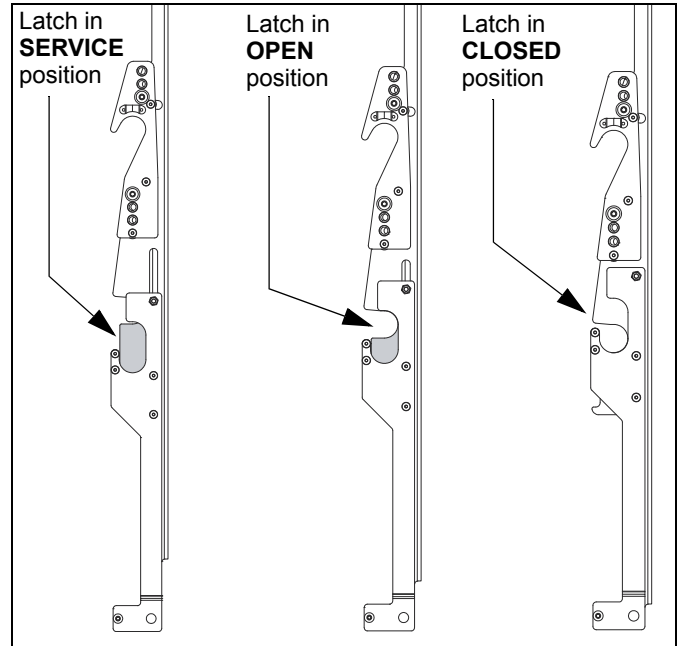
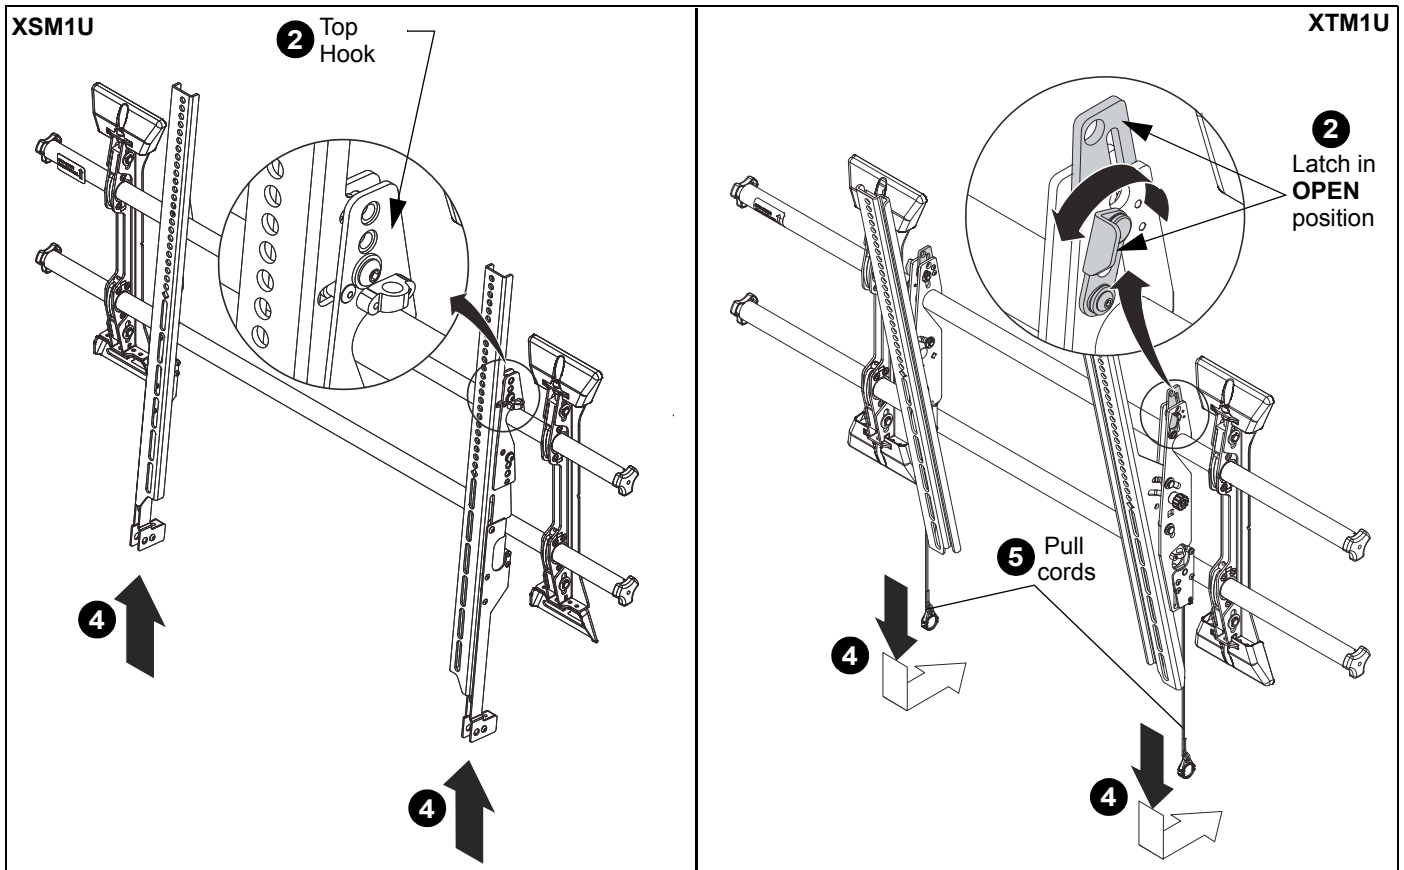
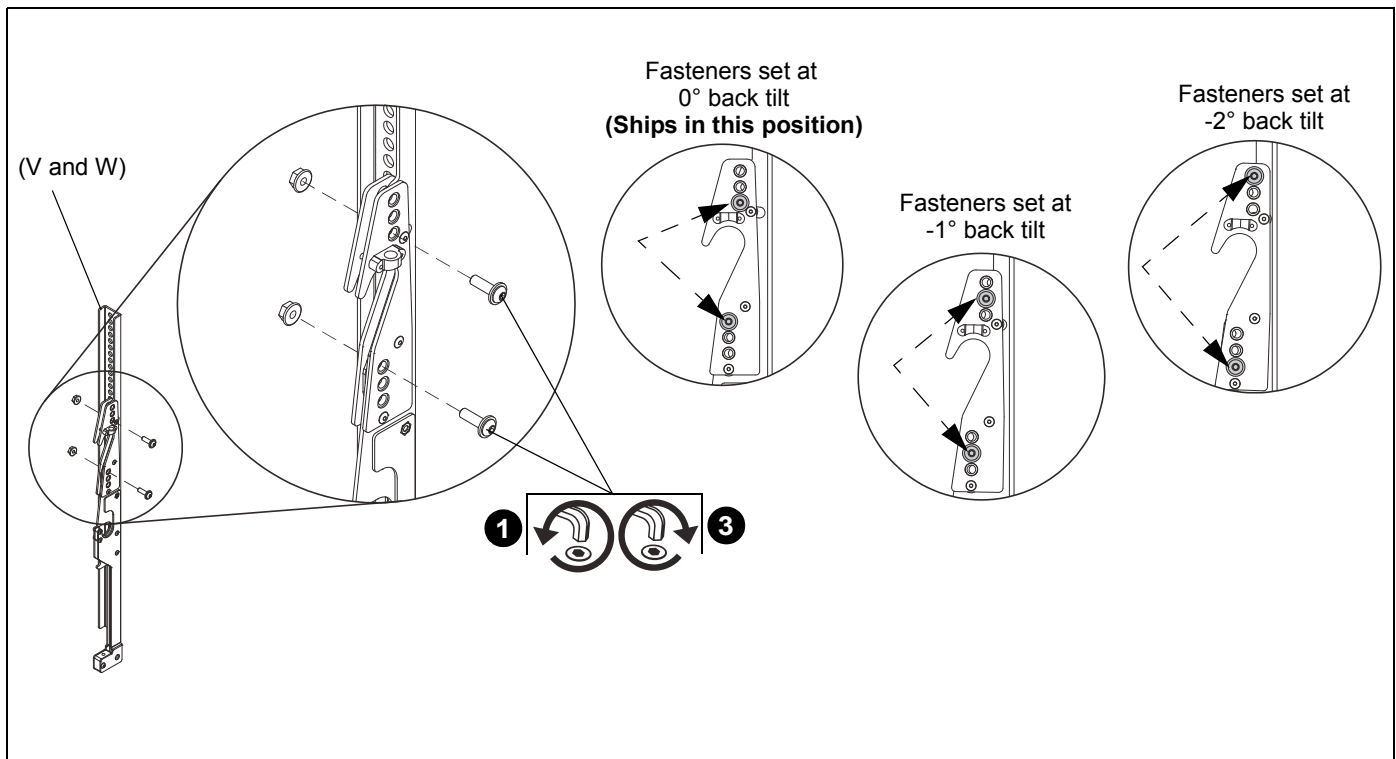

Figure 11
Figure 12
Figure 17
IMPORTANT ! : (XSM1U Only) Completely extend bottom of interface brackets (by pulling downward) to set interface brackets in **SERVICE** position before hanging on top rail. (See Figure 11)
2. Hang screen onto the top rail of the mount (Z). (See Figure 12)
- **XSM1U:** Hang top hook of interface brackets (V and W) onto the top rail of the mount (Z). (See Figure 12)
- **XTM1U:** Move latch on top of interface bracket to **OPEN** position and hang top hook of interface brackets (X and Y) onto the top rail of the mount (Z). (See Figure 12)
- **XSM1U** - Open latch by pushing bottom of interface bracket up to **OPEN** position, latching interface brackets to lower rail, and then push up from bottom of interface bracket again until the interface bracket is in **CLOSED** position. (See Figure 11) and (See Figure 12)
- **XTM1U** - Pull downward on the pull cords and swing inward toward mount, latching interface brackets to lower rail and fastening bottom of screen to the mount. (See Figure 12)
5. **XTM1U Only:** Attach end of pull cord (a magnet) to mount so it does not extend beyond bottom of screen. (See Figure 12)
NOTE: The interface brackets (V and W) ship in the 0° tilt position. (See Figure 17)
1. With interface brackets in **CLOSED** position (See Figure 11), remove two fasteners holding tilt compensation in place on each interface bracket (V and W). (See Figure 17)
2. Adjust interface bracket for -1° or -2° back tilt, as required. (See Figure 17)
3. Tighten two fasteners (removed in Step 1). (See Figure 17)